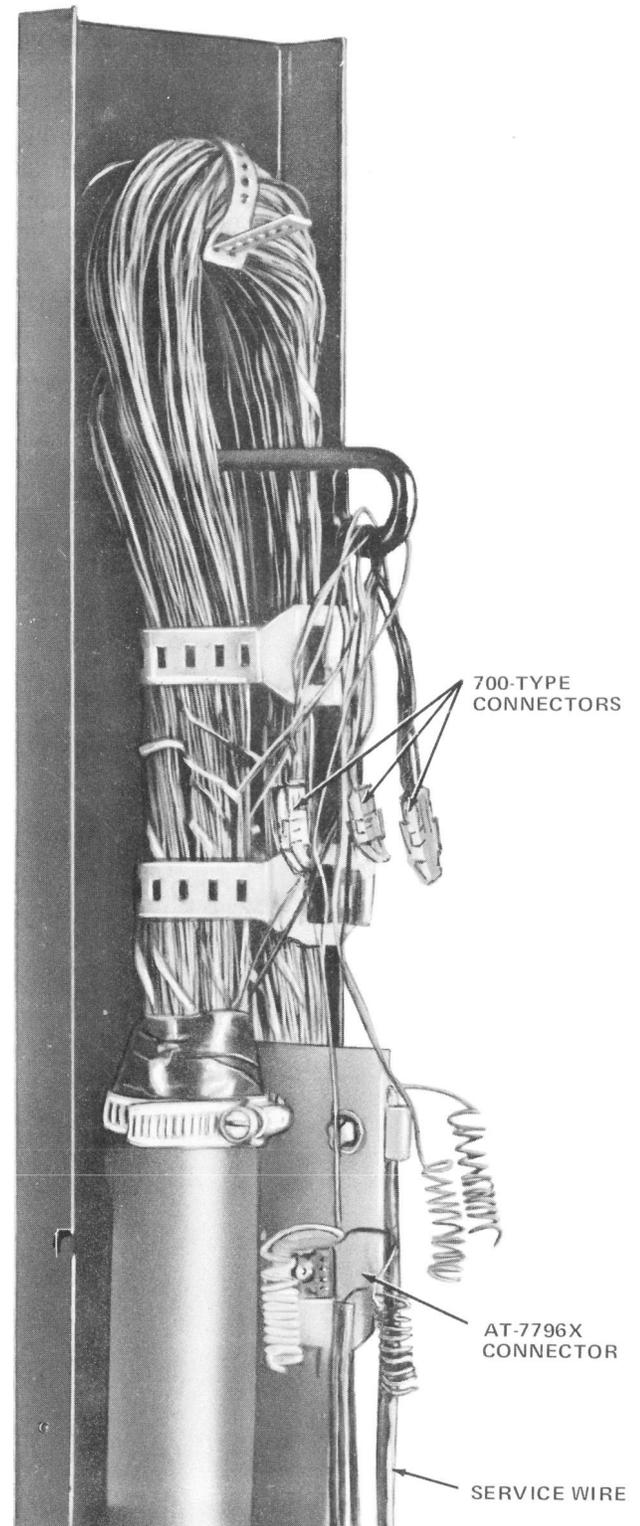

Fig. 30—Service Wire Installed—UP-200 Cable Closure
7.13 Terminate the service wire as shown in Fig. 30.